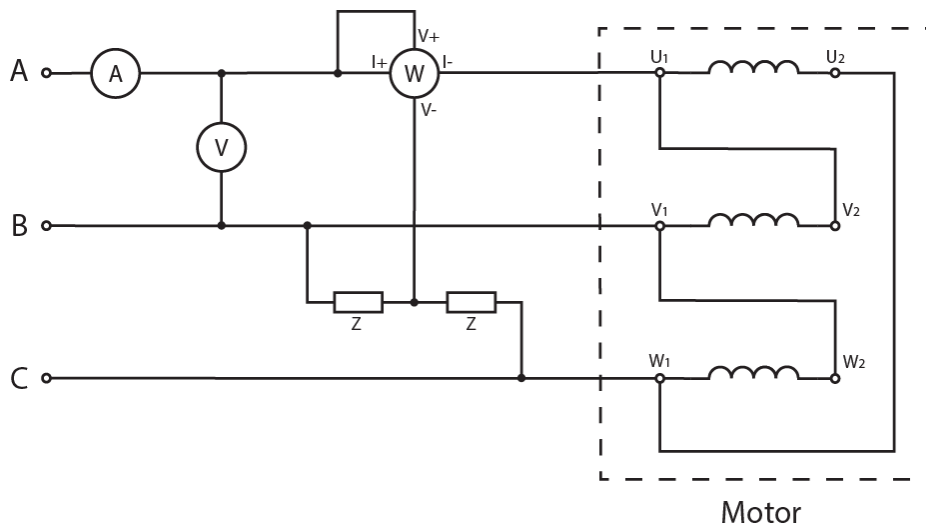

Figure 2
2.3.1 Connect the circuit shown below in Figure 2: